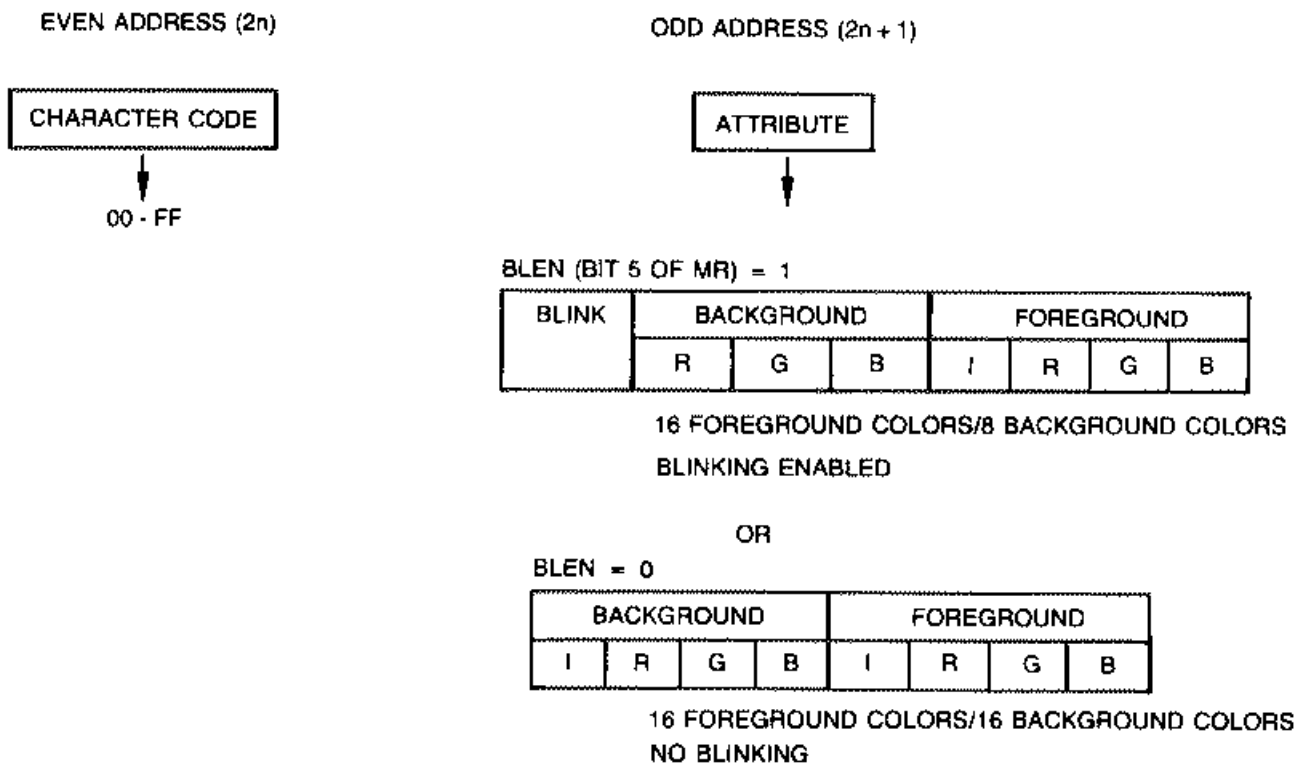

FIGURE 2-88. CHARACTER AND ATTRIBUTE DATA FORMAT
2.5.6.1 Character Mode (Figure 2-88)
When the display is used in character mode, the graphics selection signal, GR, bit 1 of the mode register (03B8H in monochrome, 03D8H in color), must be set to 0, and the character generator provides character patterns to the GAIBVD gate array. In the two-byte character address data, the even numbered addresses (2n, Figure 2-88) store character codes and the odd numbered addresses (2n + 1) store attribute data.
NOTE: The lower half of the accessed address space is used for the even scan lines and the upper half for odd scans in all configurations except VRAM mode 6. (Refer to Figure 2-88.)
If a color display and character mode are used, the 8-bit attribute data is divided to establish background and foreground colors, intensity, and enabling or disabling of blinking (Figure 2-88). When the blinking enable signal, BLEN, bit 5 of the mode register, equals 1, blinking is controlled by bit 7 of the attribute data; bits 0-3 of the attribute data indicate the foreground color as described in Table 2-49, and bits 4-6 establish the background color. When $BLEN = 0$ and blinking is inactive, bit 7 of the attribute data is used as the background intensity signal.